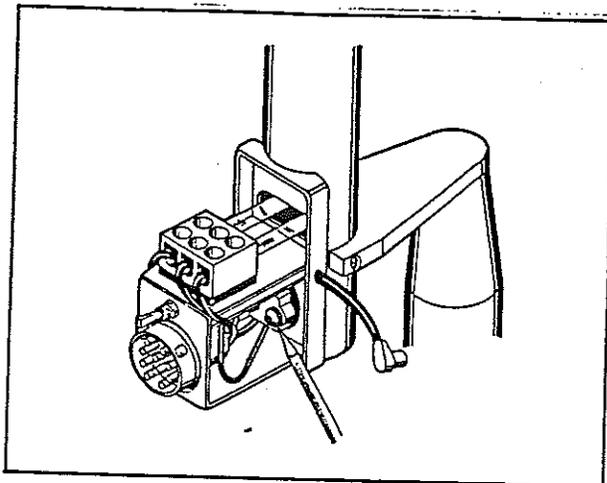

Fig. 16
- (e) The ceramic lamp base is secured on studs by two knurled nuts (Fig. 16). Remove both nuts, and withdraw the lamp base.